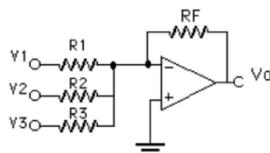

Figure 5: Summing amplifier
- Figure 5 shows the circuit schematic of a summing amplifier. Prove that the output voltage is given by $V_o = -(R_f/R_1) \times V_1 + (R_f/R_2) \times V_2 + (R_f/R_3) \times V_3$